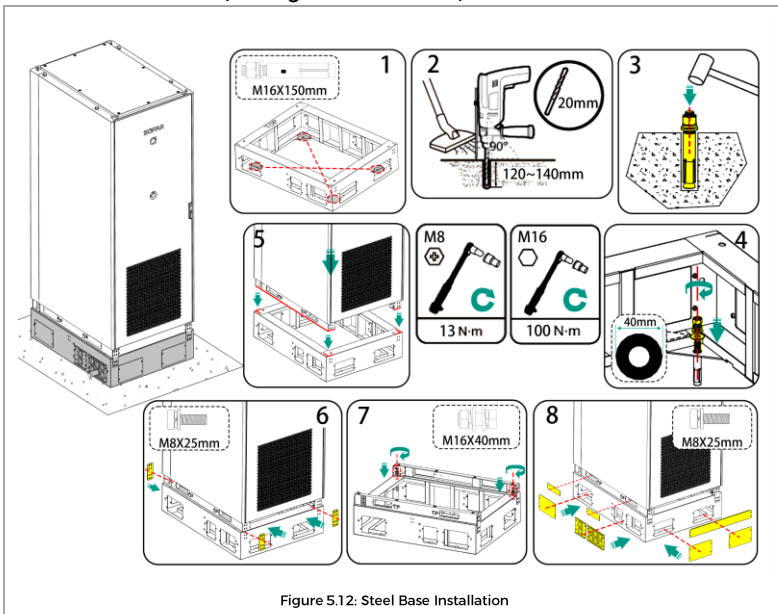

Figure 5.12: Steel Base Installation
2. Use expansion bolts to secure the steel base to the concrete floor. Mark the expansion bolt installation positions with a marker, drill the installation holes using an impact drill, install the expansion bolts, and tighten the expansion bolt nuts to the specified torque to firmly fix the steel base to the concrete foundation. (See Figure 5.12, items 1-4).
3. Secure the energy storage cabinet firmly to the steel base using bolts. Lift the energy storage cabinet onto the steel base, ensuring the base is fully aligned with the positioning lines. Using the specified torque, secure the mounting plate to both the cabinet base and the steel base with bolts (See Figure 5.12, items 5-7).
4. After completing the wiring, install the front and rear base panels to seal the cabinet base. (See Figure 5.12, item 8).